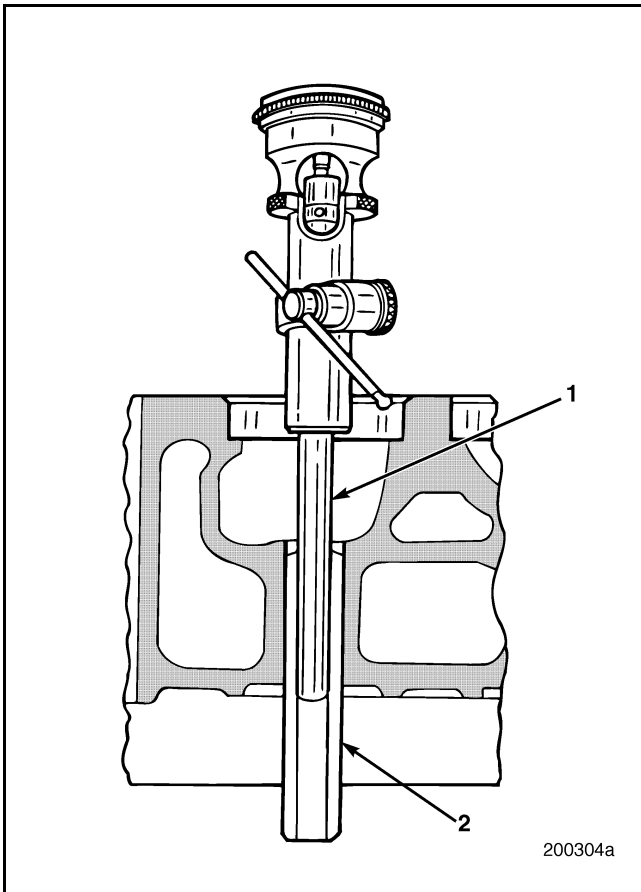

Figure 199 — Checking Valve Seat Runout
5. Determine the concentricity of each valve seat insert relative to the valve guide. Valve seat runout is to be held within 0.002 inch (0.051 mm) FIM (Full Indicator Movement), with finished valve guide ID measurements made from snug-fitting arbor (1) and through-mounted into finished valve guides (2) as shown in Figure 199.